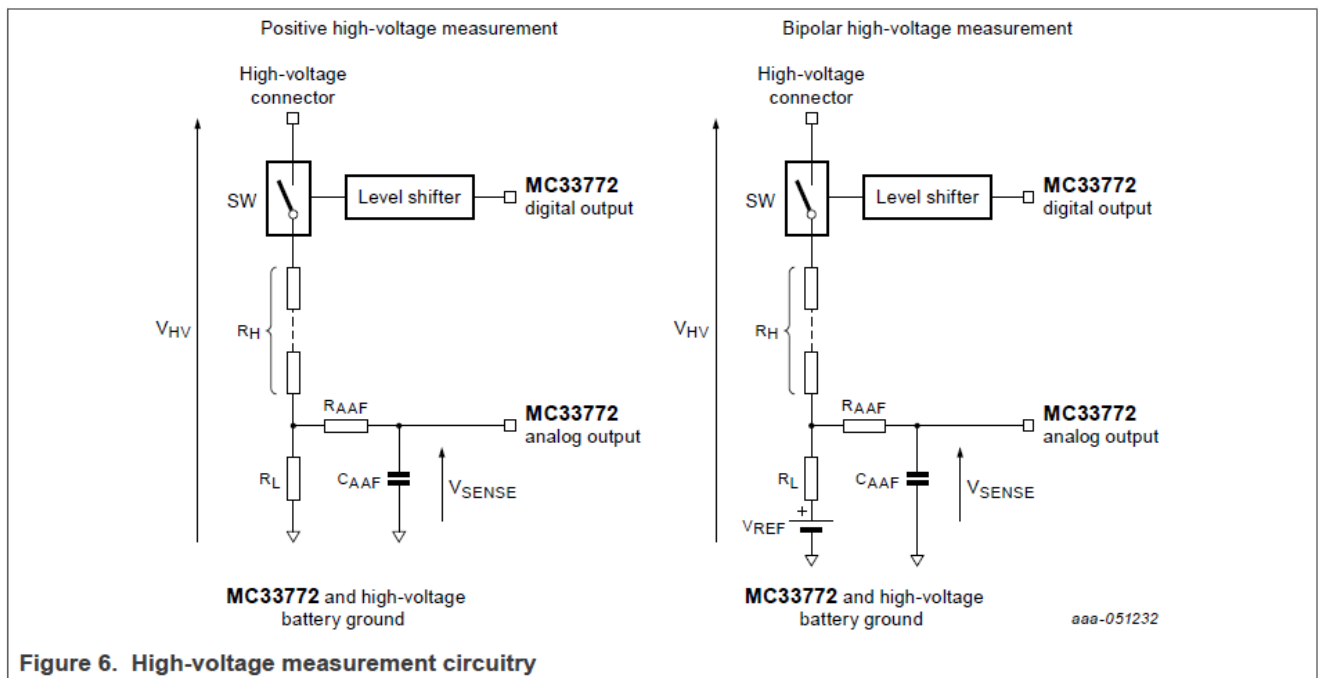

Figure 6. High-voltage measurement circuitry
- Figure 6 describes the circuitry of positive and bipolar high-voltage measurement paths.
- The simplest solution is to change the low-side resistor of the voltage divider (R_L in Figure 6). By choosing a bigger resistor, the divider ratio increases, allowing to measure smaller voltages.
- The time constant of the antialiasing filter depends on the divider impedance. In order to keep the same cut-off frequency, the user should adapt the capacitor of the filter (CAAF in Figure 6) along with R_L .